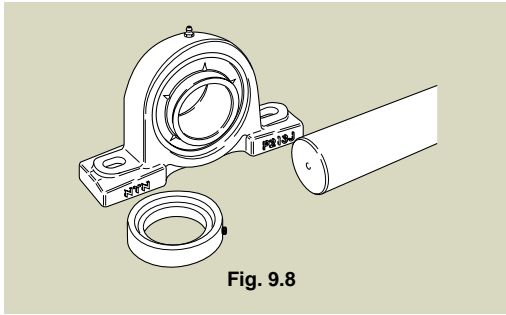

Fig. 9.8
- 2) Make sure that the end of the shaft is not burred and that the end of the set screw in the eccentric collar is not protruding from the interior surface of the collar (Fig. 9.8).